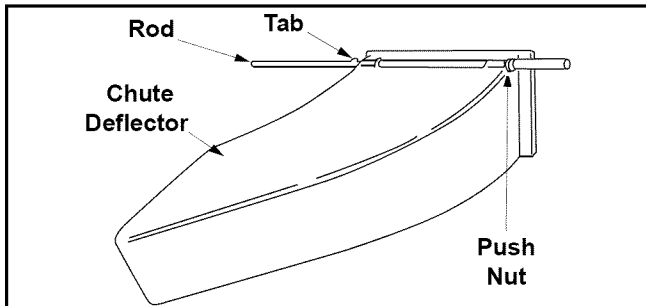

Figure 11
- Slide the rod into the upper edge of the chute deflector so the tab on the rod is toward the left side of the chute deflector. When assembled correctly, the rod will extend further to the left side than the right side. See Figure 11 .